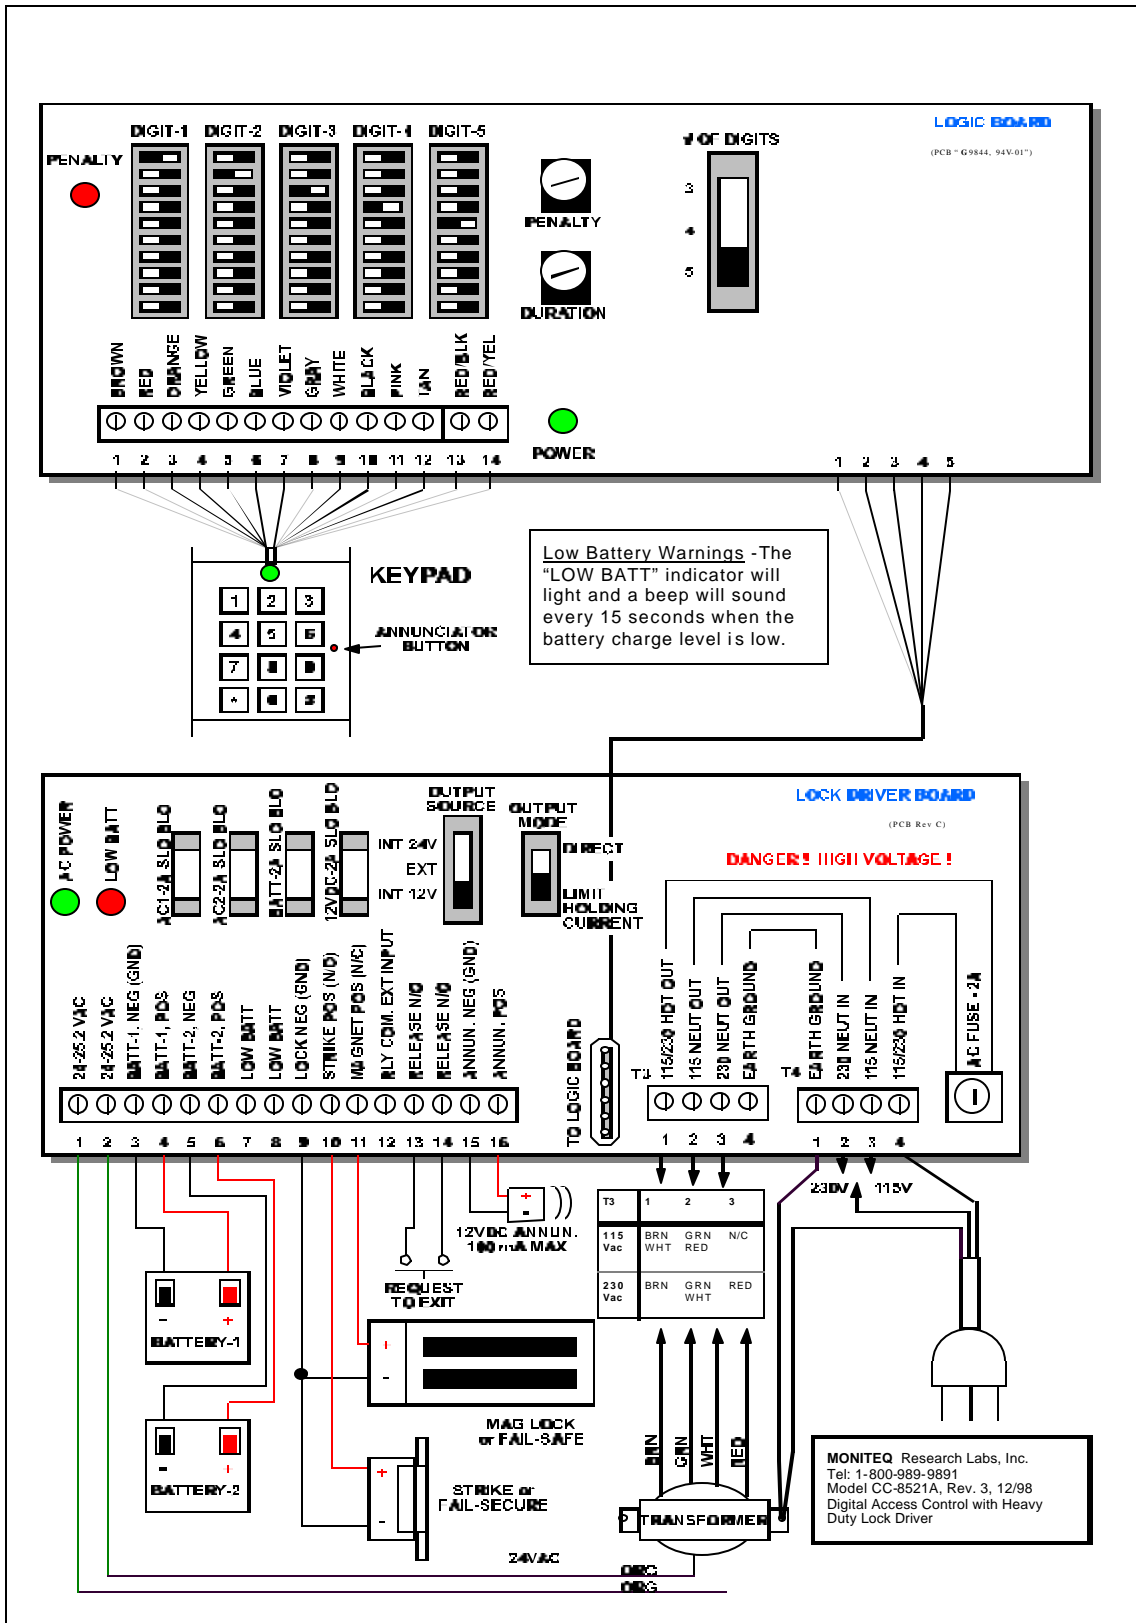

Figure 3, Crypto Lock Wiring Diagram
4. Connect the Keypad to the Control Unit as shown in Figure 3. Ten feet of cable is supplied with the Keypad. The Keypad can be located up to 200 feet from Control Unit using additional cable. (Requires 14 conductors, #22).
5. Connect the electric lock, strike or magnet as shown in Figure 3.
6. If used, connect the Release Button (supplied), and external 12VDC annunciator (not supplied), as shown in Figure 3. Note that an internal annunciator on the Logic Board will sound when the Keypad's annunciator button is pressed.
7. Install and connect the optional batteries as shown in Figure 3 using the two supplied battery cables. Use only 12V, 1.2 to 7AH rechargeable sealed lead acid batteries.
8. Connect the AC Power Cord to Terminal T4 in accordance with the available voltage (115 or 230Vac) as shown in Figure 3.
9. Connect the transformer primary wires to Terminal T3 in accordance with the available voltage (115 or 230 Vac) as shown in Figure 3. **CAUTION ! The Control Unit is shipped from the factory wired for 115Vac operation. Refer to Figure 3.**
The CC-8521A Keypad has a built-in annunciator button. Pressing this button causes an annunciator to sound in the Control Unit. If an external annunciator is connected as shown in Figure 3 it will also sound when this button is pressed.
Terminals T3 and T4 are provided to allow wiring the power transformer primary winding for either 115VAC or 230VAC. Refer to Figure 3 for correct wiring of T3 and T4.